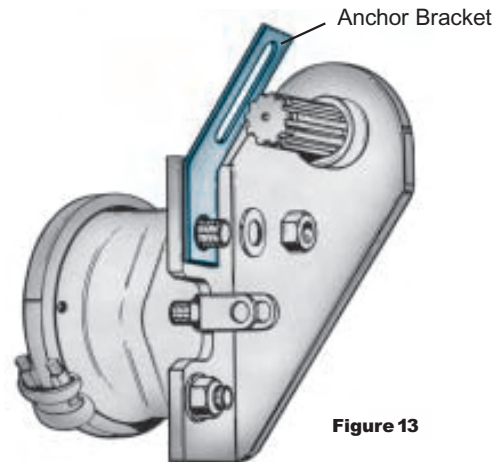

Figure 13
- Install anchor bracket loosely as illustrated (fig. 13).